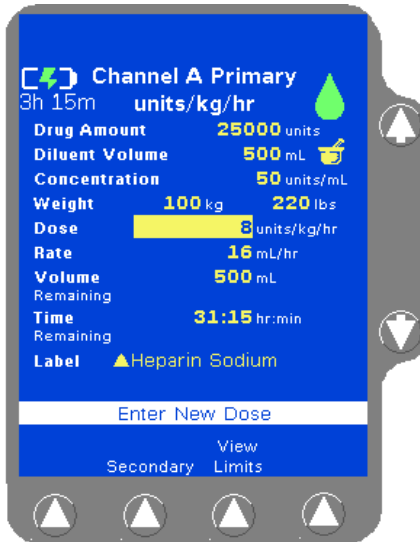

Figure 4-98 View Limits Soft Key
2. Press the **View Limits** soft key (Figure 4-98).